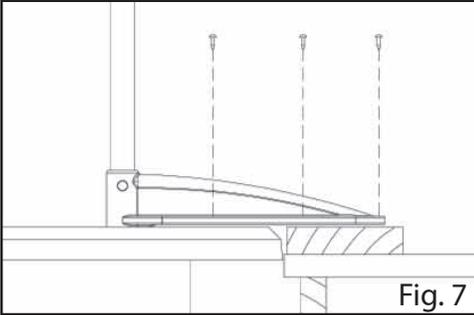

Fig. 7
8. If the deck is lower than the pool, the braces should be shimmed* to attain the same level as the pool (Fig. 7). Ensure the shim is properly secured to the deck.